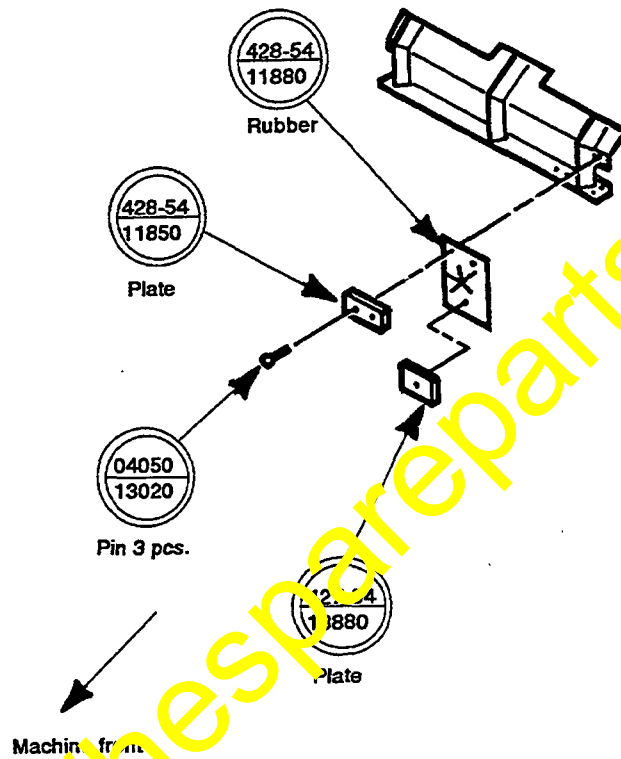

Fig. 7
- (4) Attach the rubber baffle (428-54-13460) using the drilled holes provided in (3) above.
- (5) Install the side panel (428-54-11252) on the machine. When installing the panel, the rubber baffle should be forced onto the side panel by bending it toward the machine front.
**NOTE:** On WA700-1 Machines Serial Nos. 10001 thru 10076 (excluding the Serial No. 10065), the rubber baffle (shown in Figure 7) has been installed on the bulkhead according to the Parts & Service News A910117. Check such baffles for complete sealing at the bulkheads.